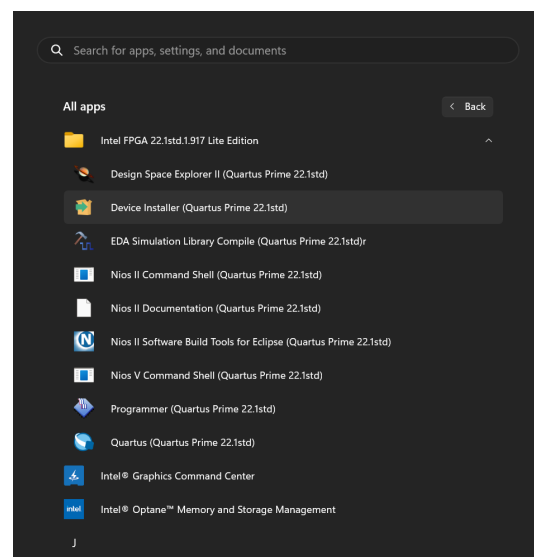

Figure 19: Finding the Quartus device installer in the Windows Start Menu.
- a. Select "Intel FPGA ..." and then "Device Installer (Quartus Prime 22.1std)" as shown in Figure 19.